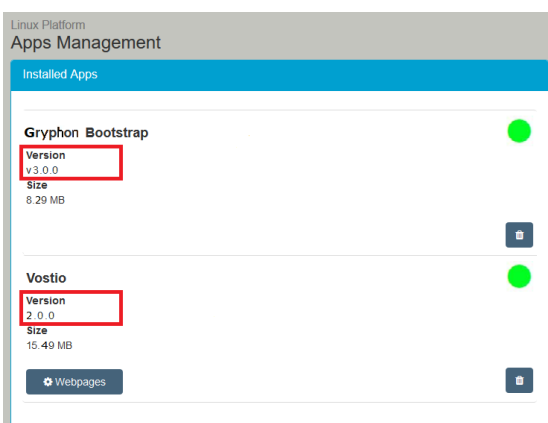

Figure 52
1. Click **Apps** in the menu bar of the web interface. The versions are shown as in Figure 52.